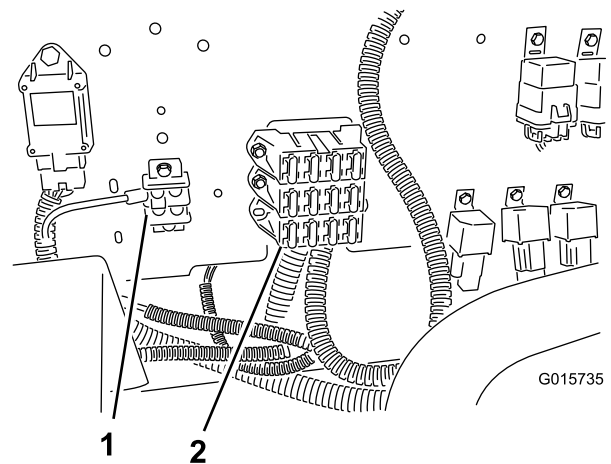

Figure 20
4. Locate the existing fuse blocks on the machine, and install the fuse block connected to the wiring harness by securing it to the bottom of the fuse block above it (Figure 20).
5. Secure the ground terminal on the wiring harness to the ground terminal block (Figure 20).